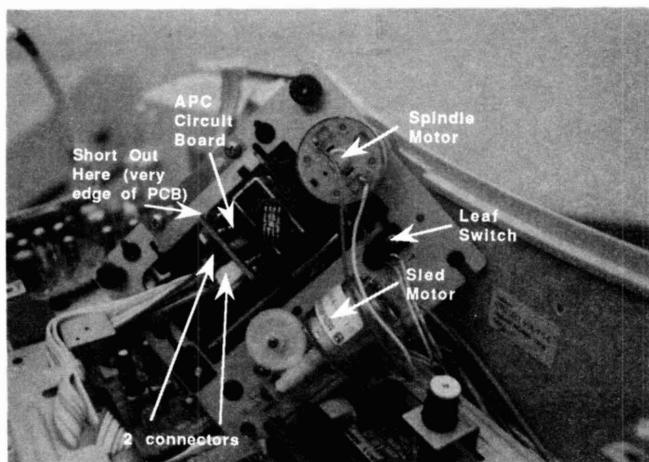

Figure 7
C. To prevent electrostatic damage to the mechanism, solder and short out the two points on the APC circuit (very corner of PCB, see Figure 7).
D. Flip PCB up and disconnect the 2 connectors from the APC circuit (Figure 7).
A. Desolder the **red** and **white** wires from the **spindle motor** (Figure 7).
B. Desolder the **orange** and **brown** wires from the **sled motor** (Figure 7).
C. Desolder the **yellow** wires from the **leaf switch** (Figure 7).
- A.** Solder the **yellow** wires to the **leaf switch** terminals (Figure 7).
- B.** Solder the **orange** and **brown** wires to the **sled motor** terminals (Figure 7).
- C.** Solder the **red** and **white** wires to the **spindle motor** terminals (Figure 7).
- D.** Reconnect 2 connectors to the APC circuit. (Figure 7).
- E.** Desolder the shorted point on the APC circuit (Figure 7).